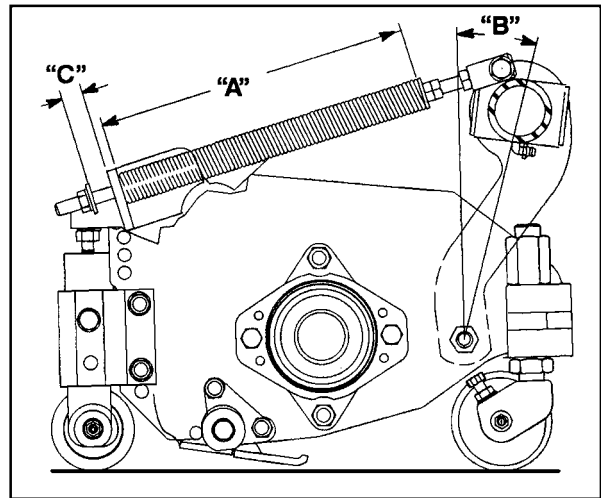

Figure 5
The turf compensation spring (Fig. 5), connecting the carrier frame to the cutting unit controls the amount of fore-aft rotation available, and the amount of ground clearance in transport and turn around.
1. Tighten the lock nut on the rear of the spring rod until the gap (C) between the rear of the spring bracket and front of the washer is 1/2" (13 mm) (Fig. 5).
2. Tighten the hex nuts on the front end of the spring rod until the compressed length (A) of the spring is 8" (203 mm) (Fig. 5).
NOTE: When cutting rough or undulating turf, increase the compressed length (A) of the spring to B=1/2" (216 mm) and the gap (C) between the rear of the spring bracket and the front of the washer to 1-1/4" (32 mm) (Fig. 5).